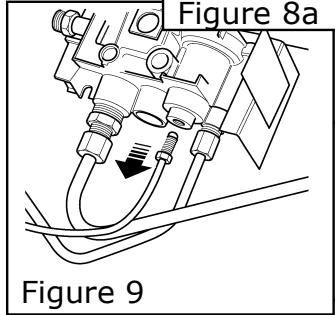

Figure 9
4. Disconnect the thermocouple from the regulator block. See figure 9.